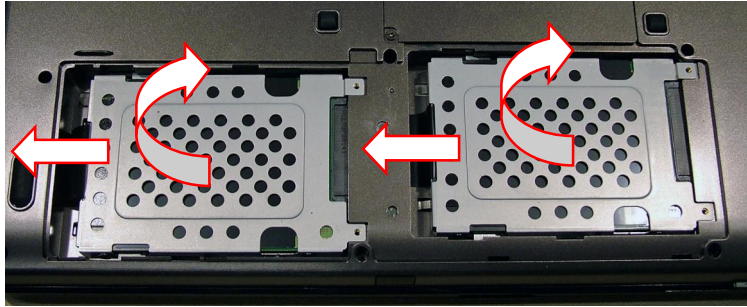

Fig. 3 Disconnecting and removing hard disk drive.
4. Take the drives out of the compartment (see Fig.3 on page 5).